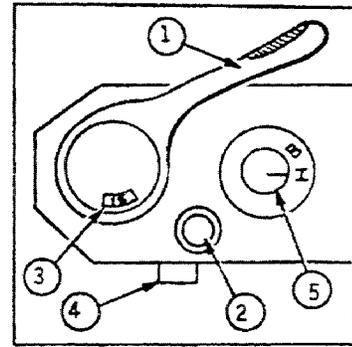

Figure 1-4. Left side.
a. Film Advance Lever (fig 1-4).
① - advances the film and cocks the shutter in readiness for the next exposure. Shutter Release Button ② - operates the shutter and fires electronic flash in synchronization. Exposure Counter ③ - shows how many frames have been exposed. Indicates numbers from -2 to 37. Automatically resets to -2 when camera back is released. Double Exposure Button 4 - allows the shutter to be cocked for multiple exposure without moving the film. Shutter Knob 5 - rotates as shutter is cocked (clockwise) and released (counter-clockwise), Acts as a selection for "I" and "TB" settings.